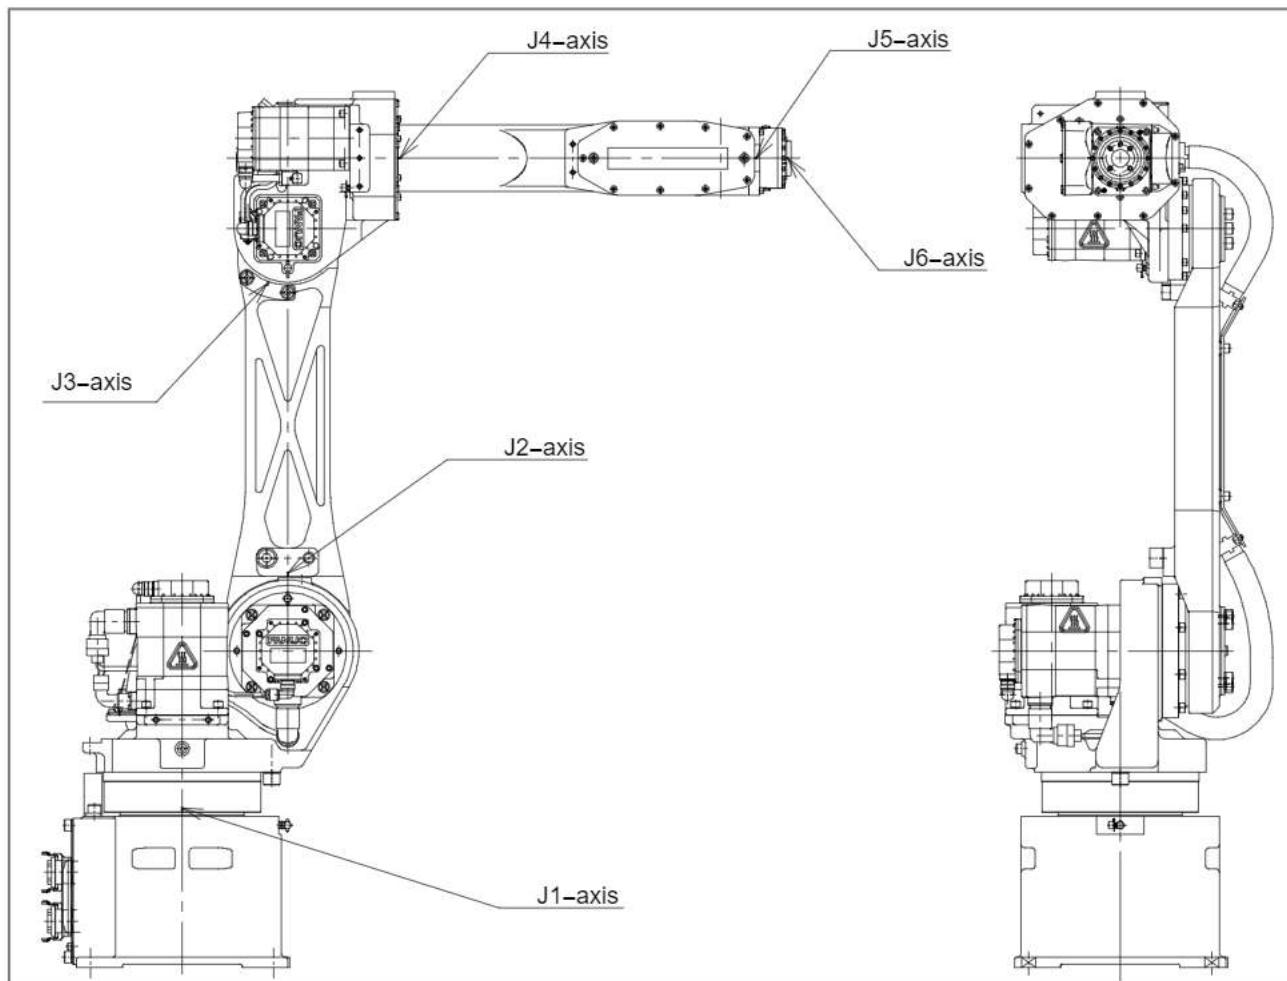

Fig 5.2 Marking of the zero-degree position for each axis
- 6 By performing an individual-axis feed command for each axis, set the zero-degree mark within +/- 1 mm from the scribed line. (See Fig. 5.2.) If no reference position has been set up at zero degrees for all axes, using simplified mastering, go to 7. Otherwise, go to 8.
Each robot axis is provided with the scribed lines shown in Fig. 5.2 for positioning. When these markings are aligned to each other, each axis is at the zero-degree position. If the markings get misaligned because of motor or reducer replacement, the following procedure can be used for rough positional calibration. This is a simplified method. To perform accurate positional calibration, use the jig-based mastering described in Section 5.4.
- 4 By performing an individual-axis feed command for each axis, set each axis to the zero-degree mark. (See Fig. 5.2.)
- 4 By performing an individual-axis feed command for a desired axis, set the axis to the zero-degree mark. (See Fig. 5.2.)
- a) Replay the taught operation of the robot to set each axis to zero degrees, and visually check that the zero-degree position marks shown in Fig. 5.2 are aligned.